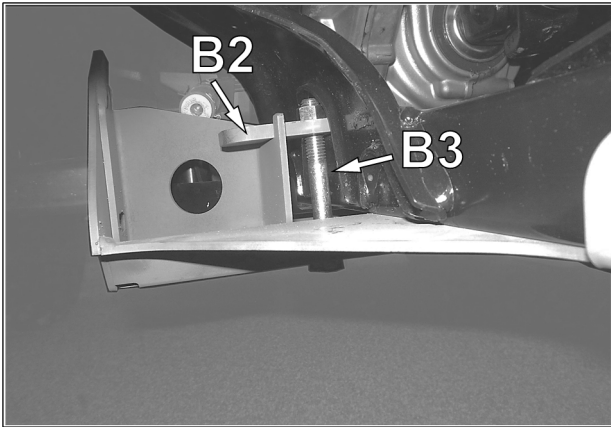

Fig. 5
- Position the anchor bracket cover (B2) in the opening over the chassis tubing. Lift and pivot the rear main anti-rotation plate in place and insert the two M10x85 mm mounting bolts (B3) through the plate bottom. See Fig. 5